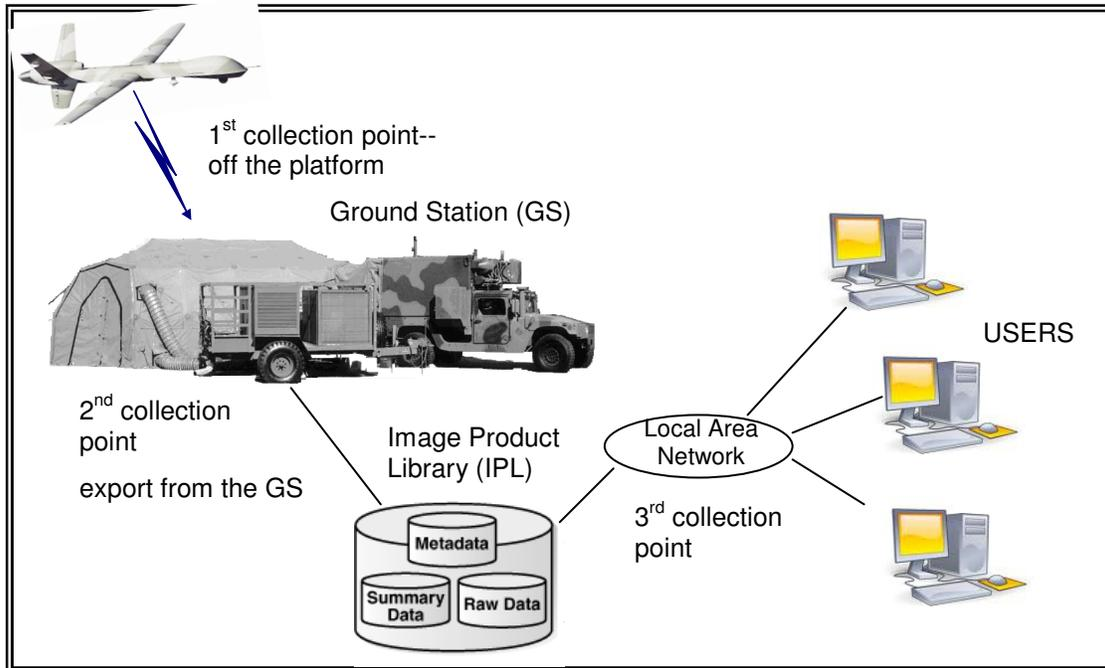

Figure 1. Generic Data Flow and Collection Points
Figure 1 shows a generic NITF system data flow, starting from the platform (sensor) to the Ground Station (GS) where the still imagery is disseminated to users. The collected imagery may be formatted as NITF either on board the platform or at the receiving ground station. The ideal collection points for collecting the NITFSDF as shown below is the output NITF product from the sensor system at the GS, the export point from the GS to an Image Product Library (IPL), and the export point from the IPL to dissemination to NITF users.